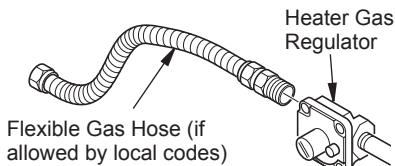
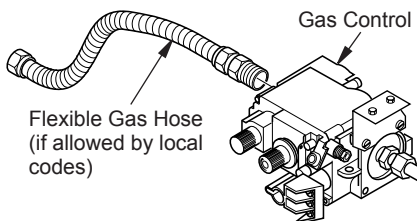

Figure 11 - Attaching Flexible Gas Hose to Heater Gas Regulator (Thermostatically-Controlled Models Only)
Figure 12 - Attaching Flexible Gas Hose to Heater Gas Regulator (Remote-Ready Models Only)
1. Apply pipe joint sealant lightly to male threads of gas fitting (not provided). For Thermostatically-Controlled Models connect approved flexible gas hose to gas regulator of heater (see Figure 11). For Remote-Ready models connect approved flexible gas hose to inlet side of gas control (see Figure 12). **IMPORTANT:** Hold gas regulator with wrench when connecting flexible gas hose (Thermostatically-Controlled Models Only).
4. Disconnect gas line from heater base as shown in Figure 11 or 12, page 13.